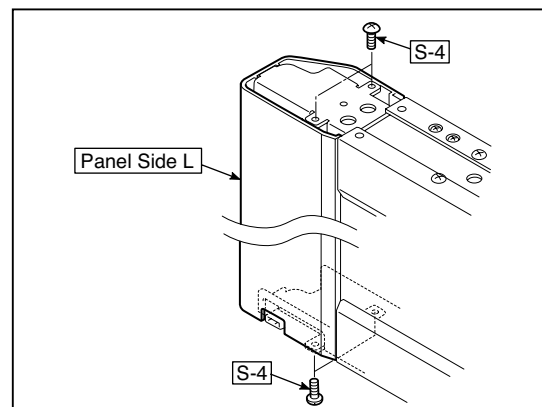

Fig.10
- 1.Remove the “S-4” screws shown in the figure10. Disconnect the connector connected to the Switch Board and then remove the Panel Side L.